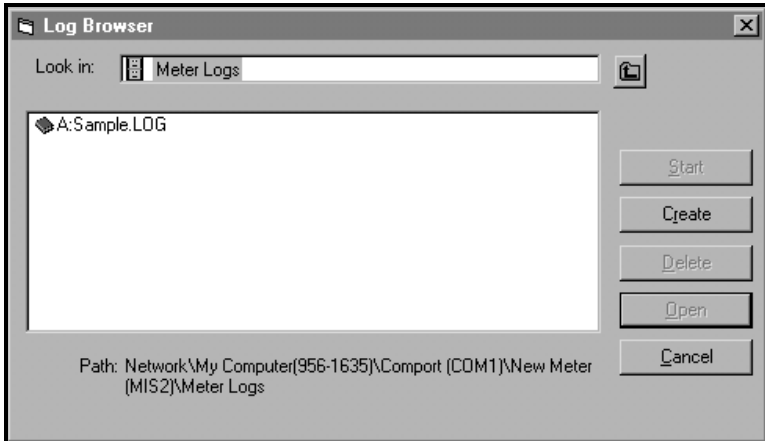

Figure 72: Create a Meter Log
- d. Double click on *meter logs* to move to the network level shown in Figure 72.
- e. At the dialog box shown in Figure 72, click on the [Create] option button to create a new meter log.